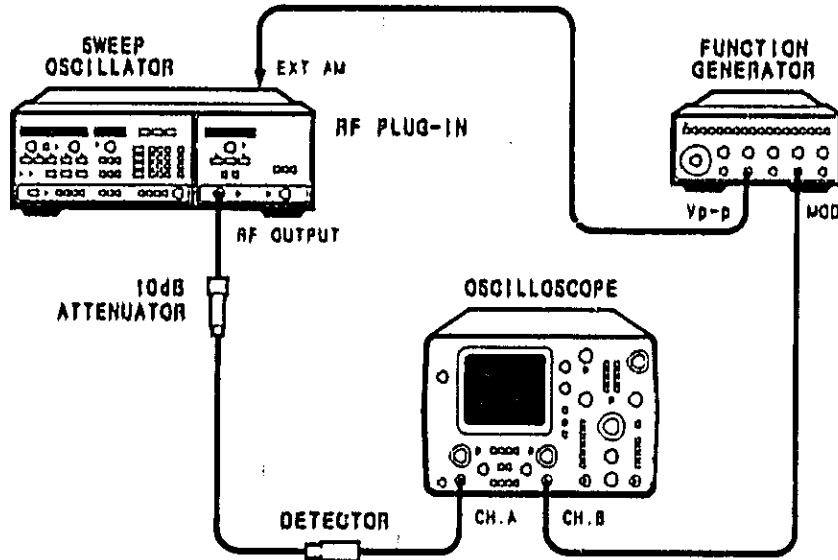

Figure 5-35. ALC Gain Adjustment Test Setup
4. Connect equipment as shown in Figure 5-35.